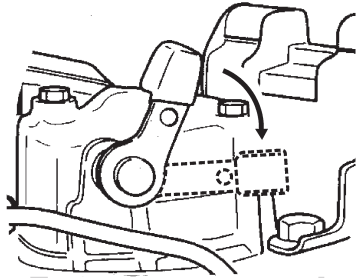

Figure 16. Decompression lever
4. Push down the decompression lever (Figure 16).